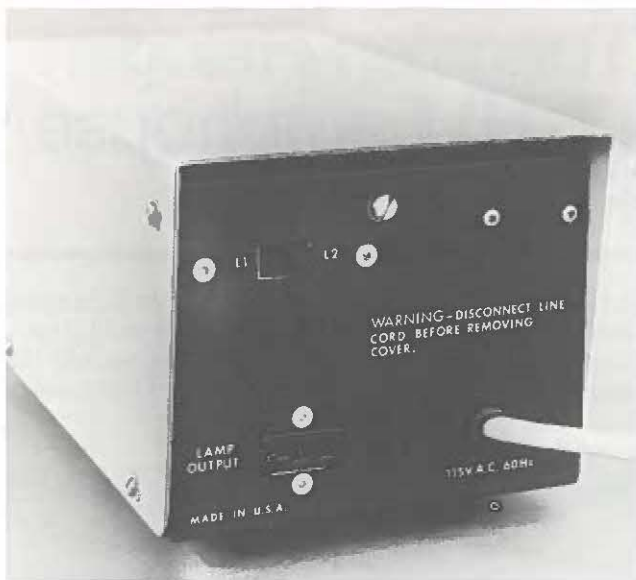

FIGURE 3-3 BACK PANEL OF POWER SUPPLY FOR HBO MERCURY LAMP
3.1.4 Set the L1/L2 selector switch at the back of the power supply (Figure 3-3) at the position which matches the lamp designation.